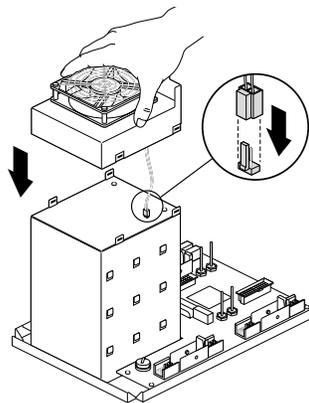

Figure 7-29 Placing the Fan on the Back of the Drive Bay
2. Place the new fan on the back of the drive bay, as shown in Figure 7-29.